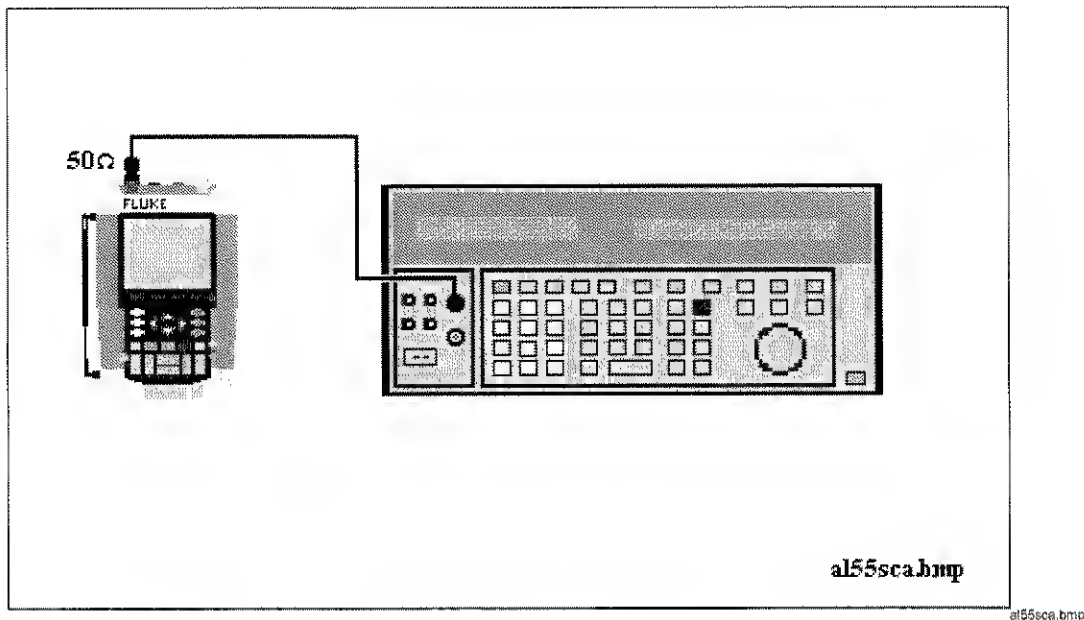

Figure 4-16. Test Tool Input A to TV Signal Generator
1. Connect the test tool to the calibrator as shown in Figure 4-16.